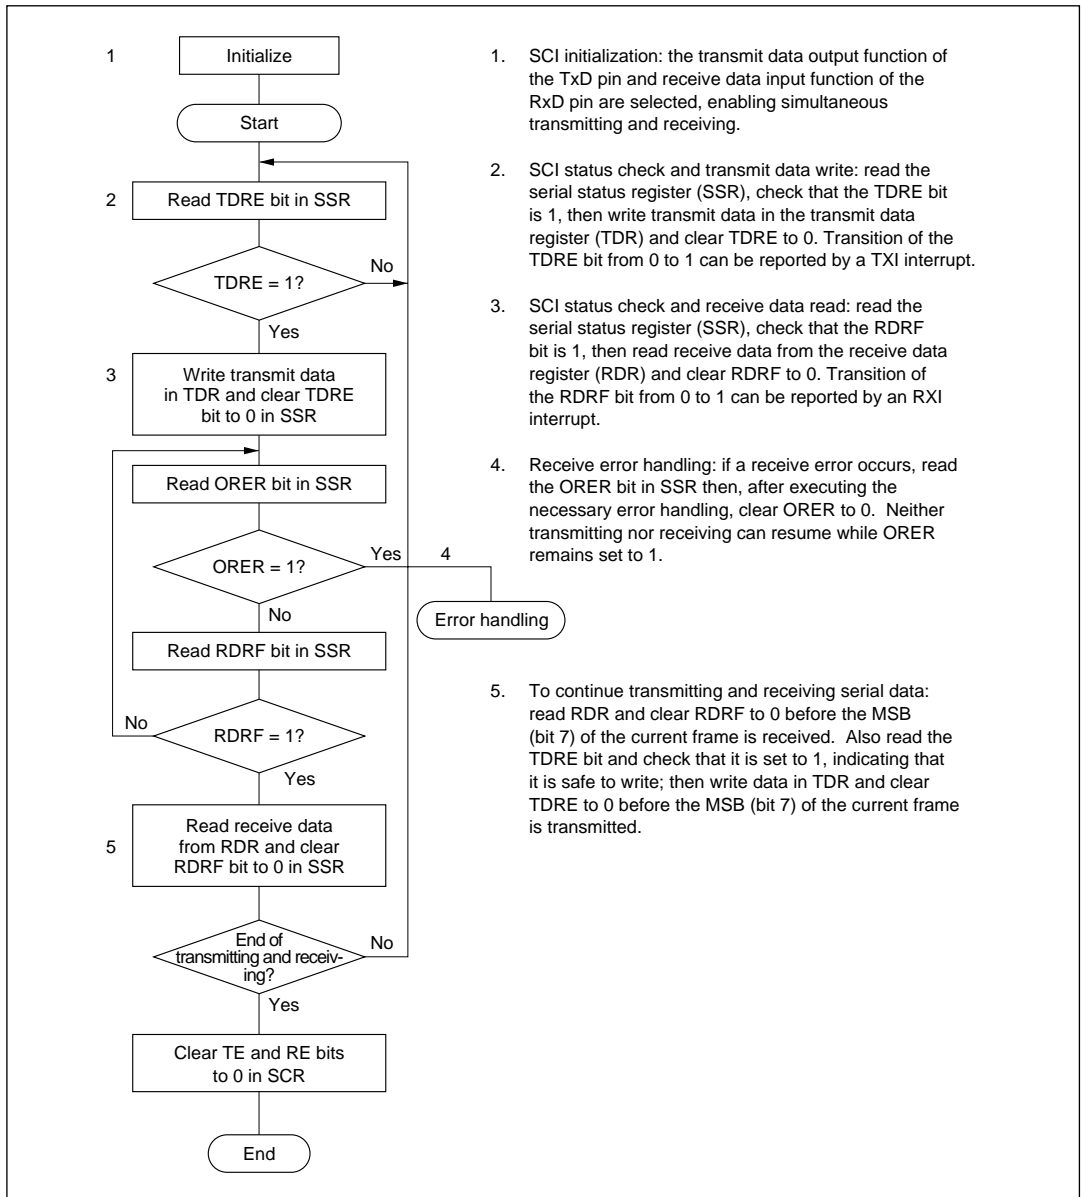

Figure 11-17 Sample Flowchart for Serial Transmitting and Receiving
- **Transmitting and Receiving Serial Data Simultaneously:** Follow the procedure in figure 11-17 for transmitting and receiving serial data simultaneously. If clock output mode is selected, output of the serial clock begins simultaneously with serial transmission.